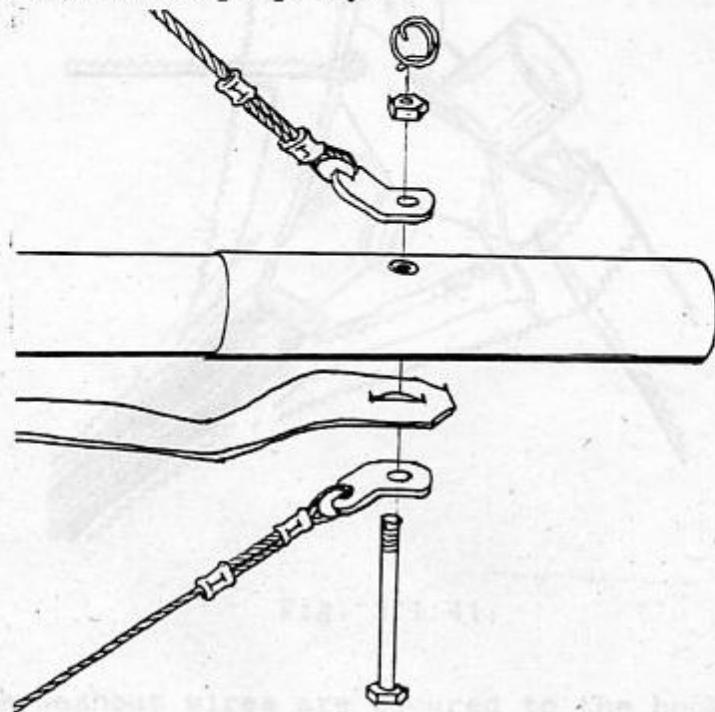

Fig. 3.1.39.
22. Secure the lug of the bottom rear wires, the keel mount webbing (from the underside) and the lug of the top rear wire (from the upper side) using the bolt fixed with the castle nut and the safety ring (Fig. 3.1.39, 3.1.40).